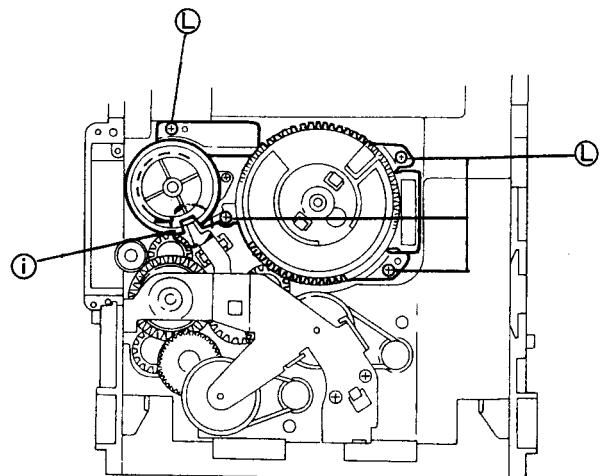

Fig. 36
4. Rotate the Cam gear L so that the select gear's ① is positioned as shown in Fig. 36.
5. Remove 4 screws ⑥ securing the cam unit which includes the cam gear L and Cam R1, R2 ass'y. (See Fig. 36.)